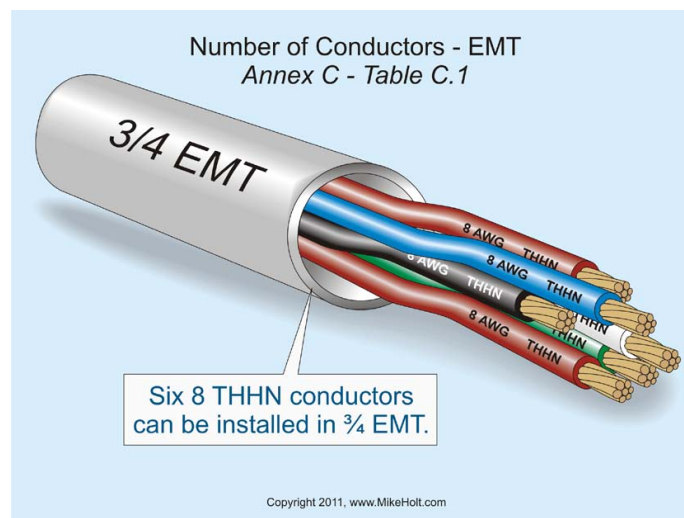

Figure 5-3
**Question:** How many 8 THHN conductors can be installed in a trade size 3/4 EMT? **Figure 5-3**